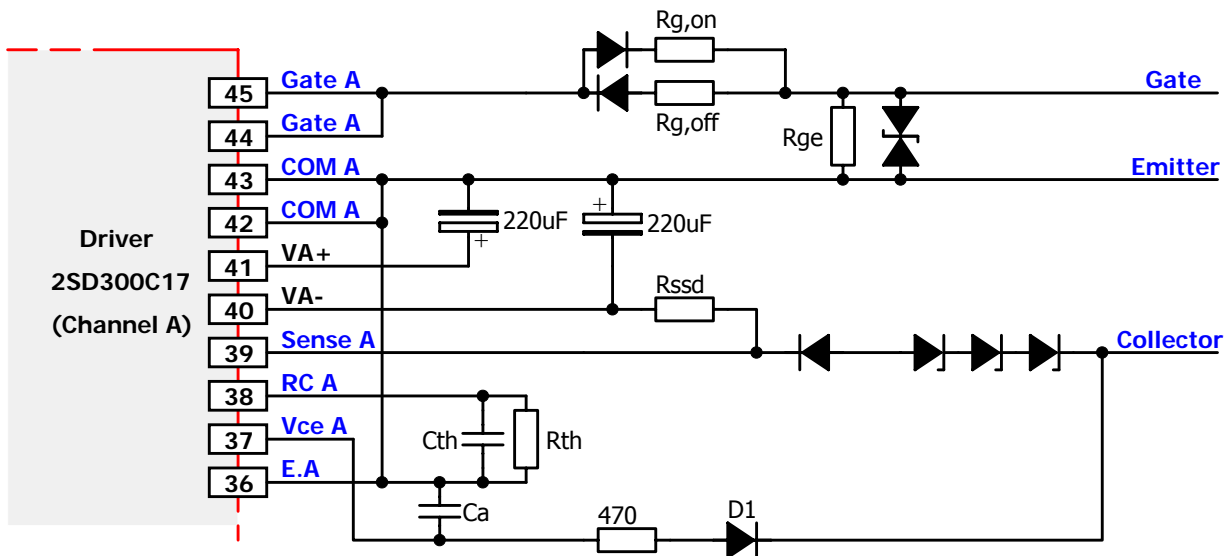

Fig. 6 Recommended user interface of 2SD300C17 (only channel A, secondary side)
Fig. 6 shows the recommended interface circuit for the secondary side of the driver (channel A). The same circuit can be used for channel B (not shown).
The blocking capacitors must be placed between  $V_{x+}$  and COM x as well as between COM x and  $V_{x-}$  (see Fig. 6). They must be connected as close as possible to the driver's terminal pins with minimum inductance. Capacitors with high ripple current capability should be used.
- $R_{ssd}=10k\Omega$ ,  $C_a=1nF$  (see Fig. 6)
2SD300C17 drivers are equipped with a dynamic collector sense function. The collector sense must be connected to the IGBT collector with the circuit shown in Fig. 6 in order to detect an IGBT overcurrent or short-circuit. For more details about the functionality of this feature, refer to "Vce monitoring / short-circuit protection" on page 14.
Active clamping can be realized with a feedback from the collector to the Sense x input according to Fig. 6. It is recommended to use the following transient voltage suppressors (TVS):
The 2SD300C17 driver is equipped with a Vce monitoring circuit. The recommended circuit is illustrated in Fig. 6. A resistor and a capacitor ( $R_{th}$  and  $C_{th}$  in Fig. 6) are used as the reference elements for defining the dynamic turn-off threshold.